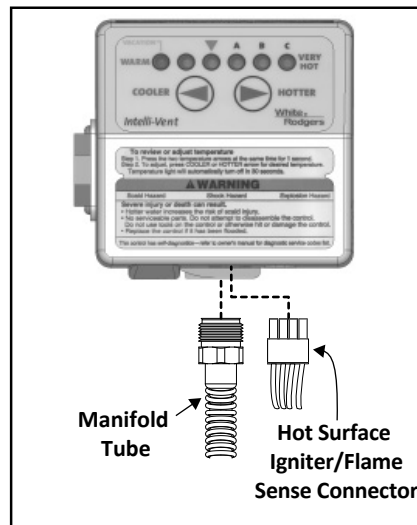

Figure 44 - Gas valve connections at thermostat.
- 6 Disconnect the hot surface igniter/flame sense cable from the thermostat (Figure 44).
- 7 Disconnect the manifold tube at the gas control valve/thermostat (Figure 44).